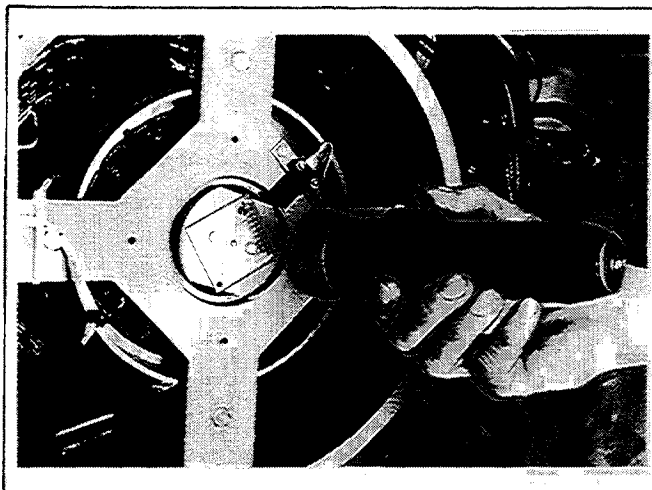

Figure 4-13. Flashlight Test
8. Start set, shine bright flashlight on photo transistor board (see Figure 4-13). AC voltmeter should show ceiling voltage and return to very low voltage when flashlight is removed. Repeat test 7 times. If output does not drop to low voltage when flashlight is removed, replace FR Activator. See "FR Activator". If ceiling voltage is not read, go to exciter armature test.